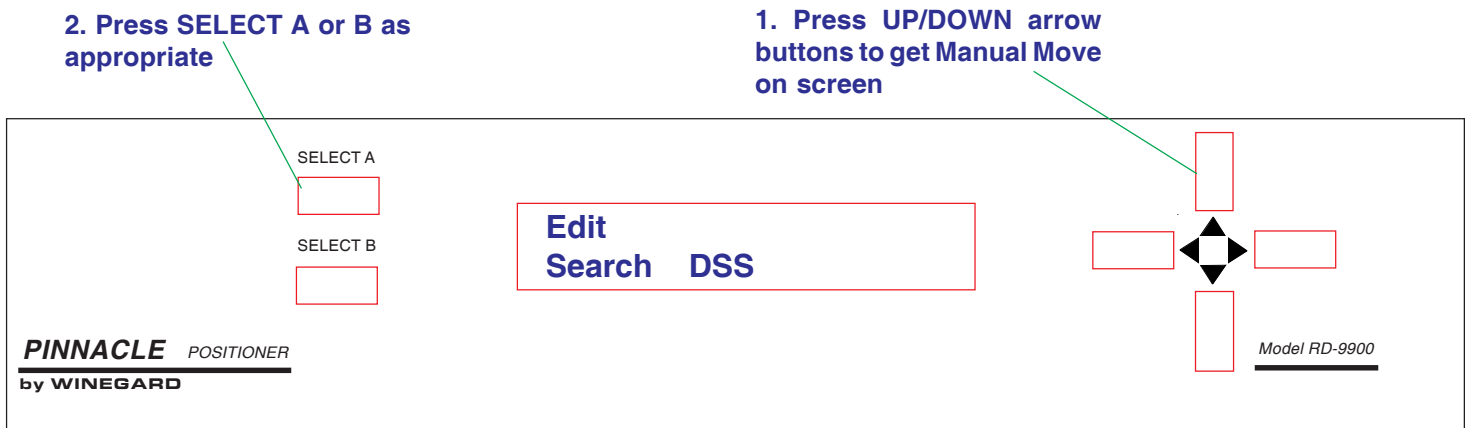

Figure 9
3. Access Edit Menu; press **[UP/DOWN]** arrow buttons until Edit is displayed on positioner display. See Figure 9.
4. Press **[SELECT A or B]** as appropriate to enter Edit Menu. See Fig. 9.